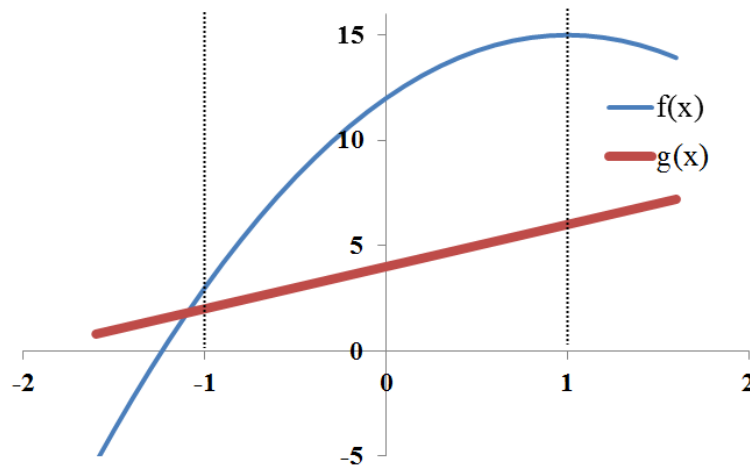

Figure 3. Curves for $f(x) = -2x^2 + 5x + 10$; $g(x) = 3x + 5$
- e) Using the Gauss quadrature parameters in **Table 1**, calculate the area under $f(x)$ and $g(x)$ functions (**Figure 3**) between $x = -1$ and $x = +1$ using Gauss quadrature method. Compare these answers with those obtained using standard integration techniques. [12 marks]